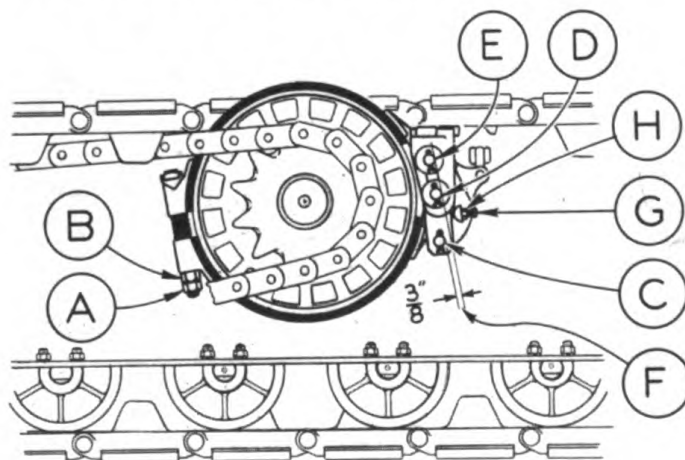

FIGURE 65
Disengage traction brakes (Levers No. 7 and No. 8 down-see page 42). Loosen lock nut (A) and turn adjusting nut (B) to tighten the band. After proper adjustment has been made, tighten nut (A). NOTE: Do not tighten brake too much without testing it. Ordinarily, turning the adjusting nut (B) from one flat side on the nut to the next flat side - or one-sixth of a turn - will be enough adjustment to make at one time before testing brake. Inspect the toggle action on the brakes at regular intervals to be sure the linkage has a sufficient amount of back-lock to keep the brakes set. Pin (C) should pass the center line of pin (D) and pin (E) about  $\frac{3}{8}$ " as shown at (F) Figure 65 above, when the brake is set. To increase the amount of back-lock, turn out the adjusting set screws (G); to decrease the back-lock turn screws in. Always securely tighten the lock nuts on screws (H) after making adjustments.